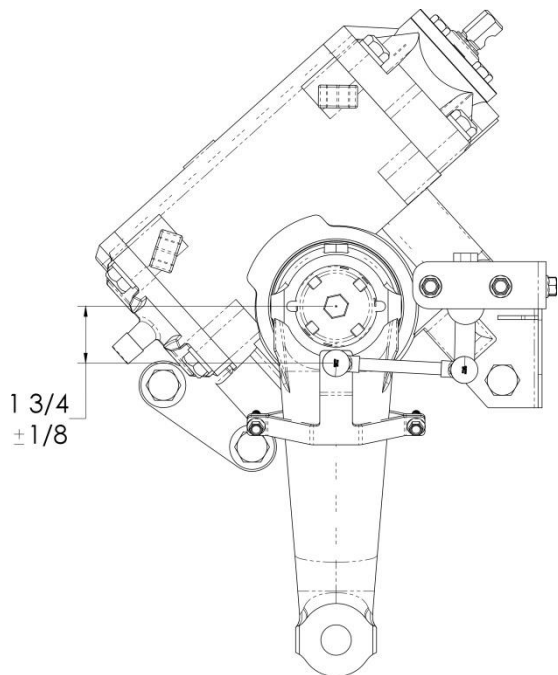

Figure 32. Placement of Ball Stud Bracket.
7. Attach Ball Stud Bracket and Wldmnt, Ball Stud Bracket to the Pitman Arm using 1/4-20 fasteners. Place 1 3/4" from center of Pitman Arm to center of Ball Stud as shown in Figure 32. **Torque 1/4-20" bolts to 10 ft-lbs.**